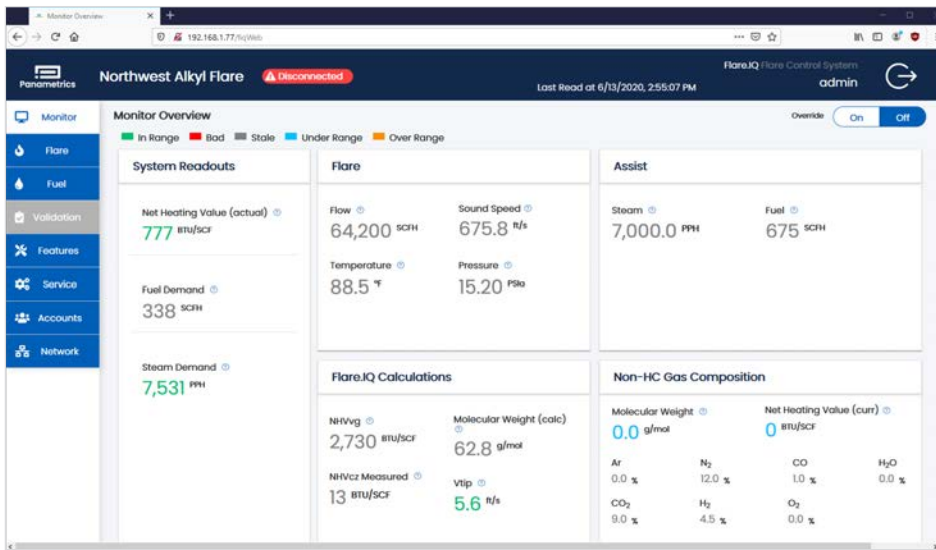

Figure 22: Monitor page with no Modbus connection
- **Disconnected** – The DCS or other Modbus master has not initiated a TCP session with the flare.IQ or has disconnected/closed the TCP session. A disconnect is assumed to have occurred if there is no traffic on the designated port for 30 seconds (figure 22).